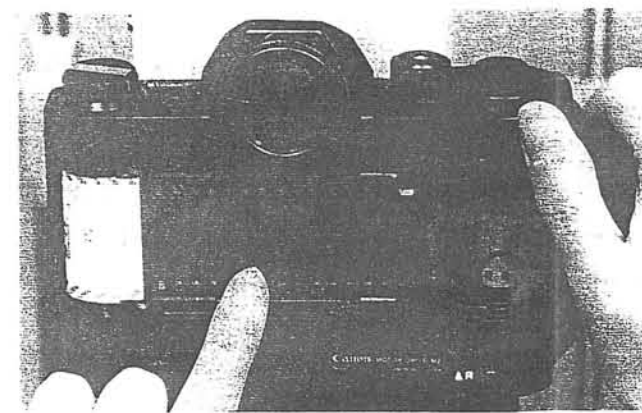

Fig. 22
5. Engage the take-up spool teeth and the film sprocket teeth with film perforations while moving the film lever to the right, thus advancing the film by one frame. (Fig. 22)